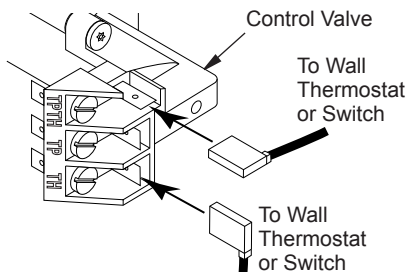

Figure 21 - Connecting Wire Terminals
2. Connect one terminal of 25 ft. wire to the "TH" terminal on the control valve. Connect the other terminal to the "THTP" terminal on the control valve. See Figure 21, page 17.
2. Connect one terminal of 25 ft. wire to the "TH" terminal on the control valve. Connect other terminal to the "THTP" terminal on control valve. See Figure 21.